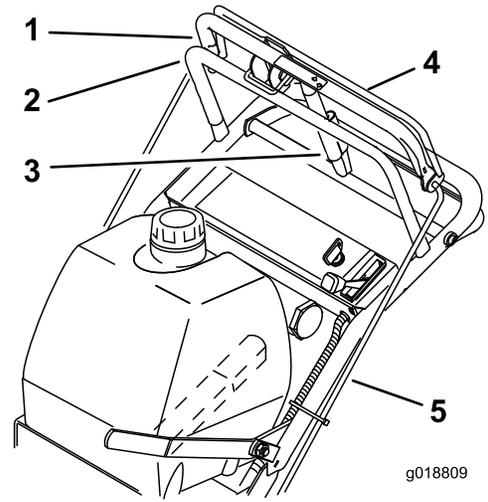

Figure 22
1. Check the gap between the upper control bar and the fixed bar with the wheel drive fully engaged. The gap will need to be approximately 1 to 1-1/4 inches (25-32 mm) (Figure 22).